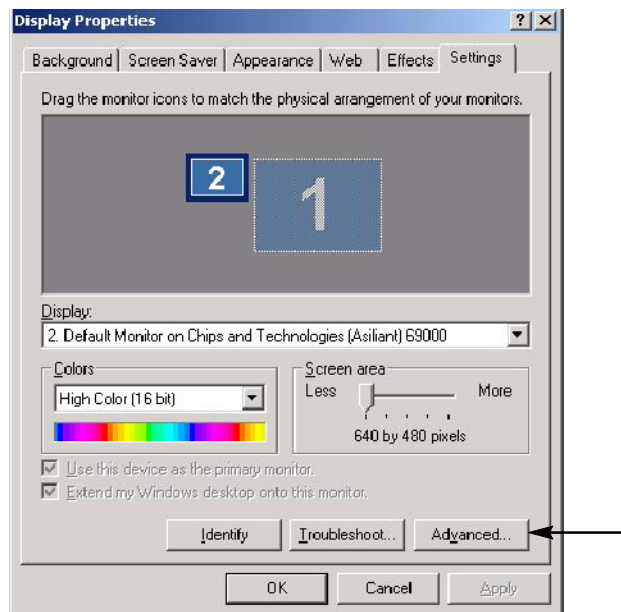

Figure 10: Advance button
4. Click the Advance button. See Figure 10.